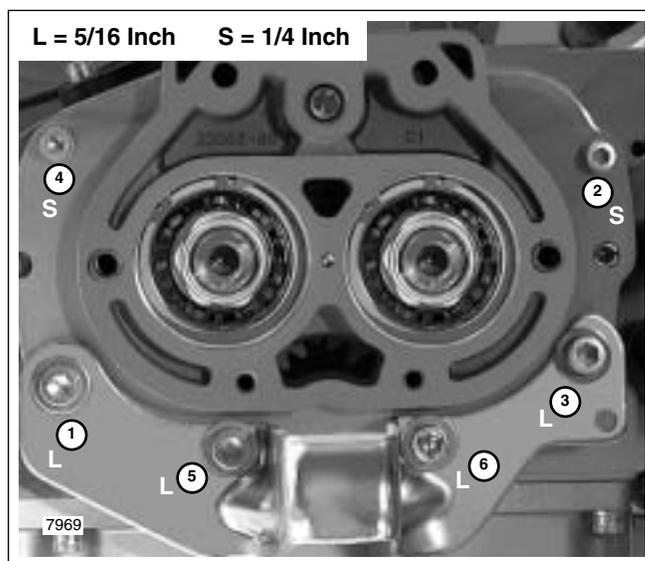

Figure 7-40. Side Door Screw Size and Torque Sequence
- Resetting the torque wrench as necessary, tighten the four 5/16 inch screws to 13-16 ft-lbs (18-22 Nm) and the two 1/4 inch screws to 84-108 **in-lbs** (9-12 Nm) in the sequence shown in Figure 7-40.